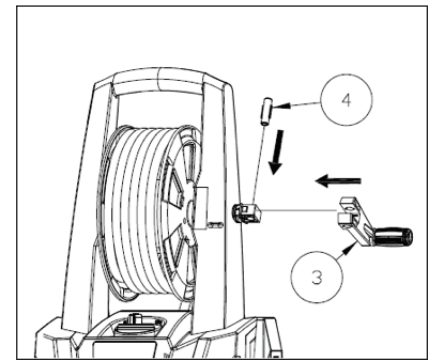

Figure 7 - Assemble the handle onto unit (PW190200 only)
5. Assemble the handle (3) onto unit by inserting the pin (4) to connecting rod (See Figure 7).